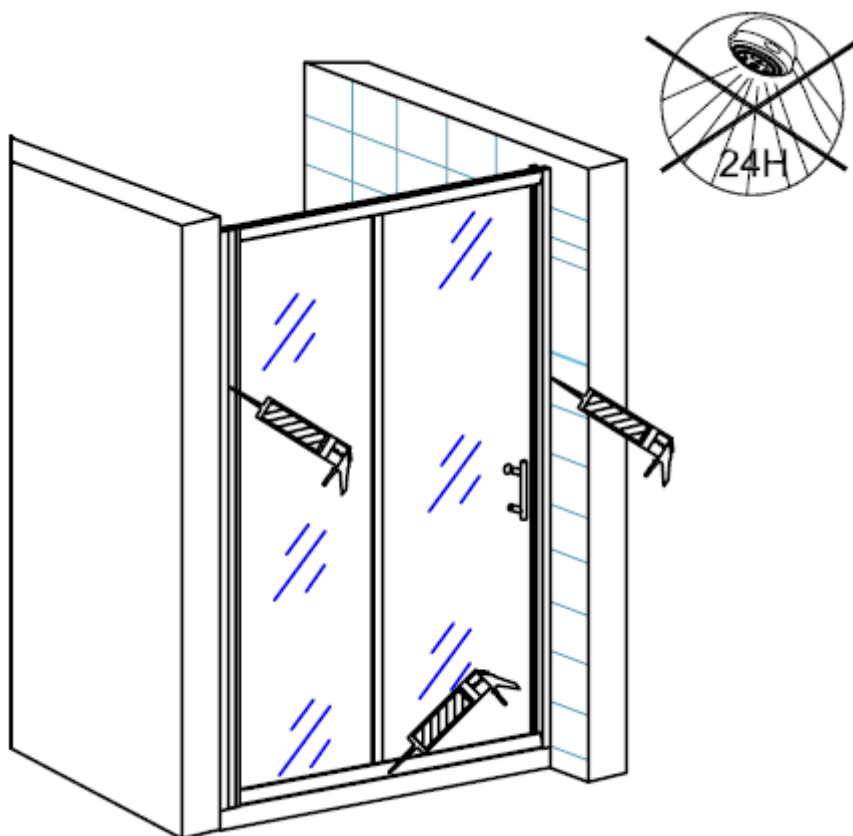

Figure 14
14. Finally,at all points connected to the wall,shower tray,floor and profiles,use silicone sealant only on the outside of the shower enclosure,as showed in figure 14